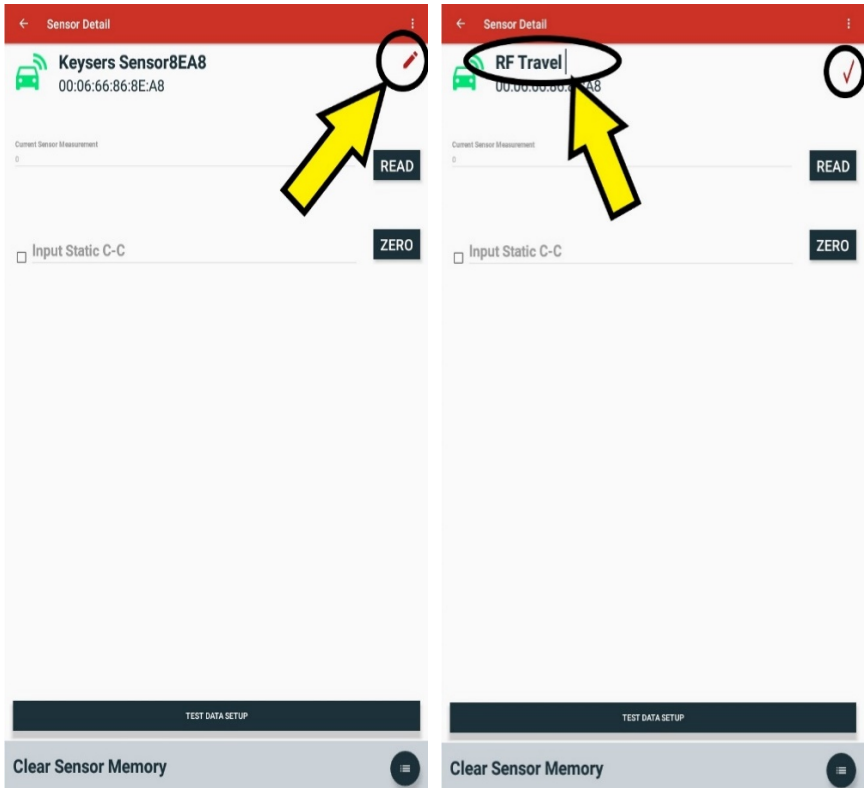

Figure 13: Edit Sensor Name Selection (Left), Name Edit and Confirmation (Right)
- Click on the “Checkmark” found on the right of the screen, shown in Figure 13 (Right), to confirm the name change.